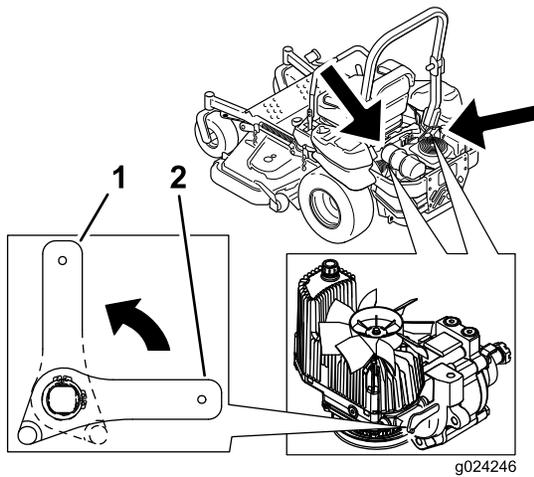

Figure 32
3. Rotate the release-valve levers vertically to push the machine (Figure 32).
5. Rotate the release valve levers horizontally to run the machine (Figure 32).